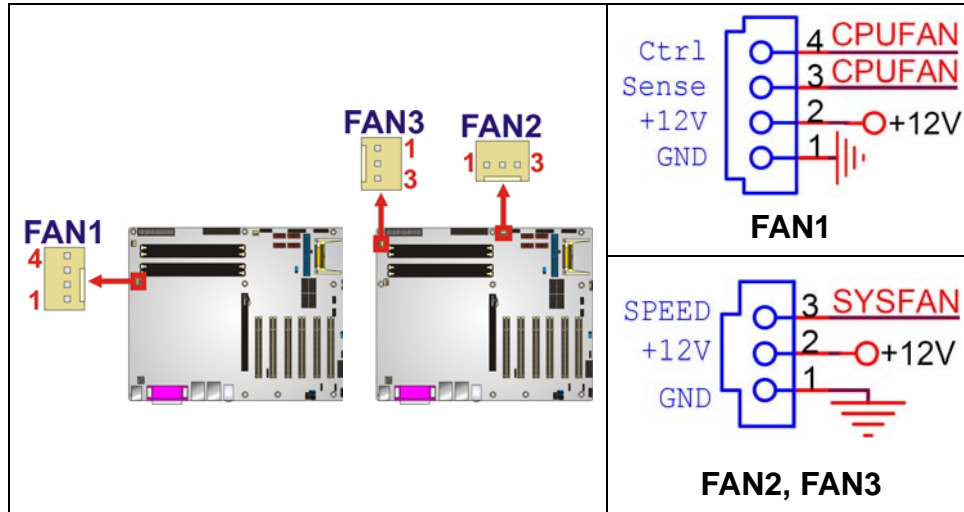

Figure 4-9: Fan Connectors Locations
- CN Location:** See Figure 4-9